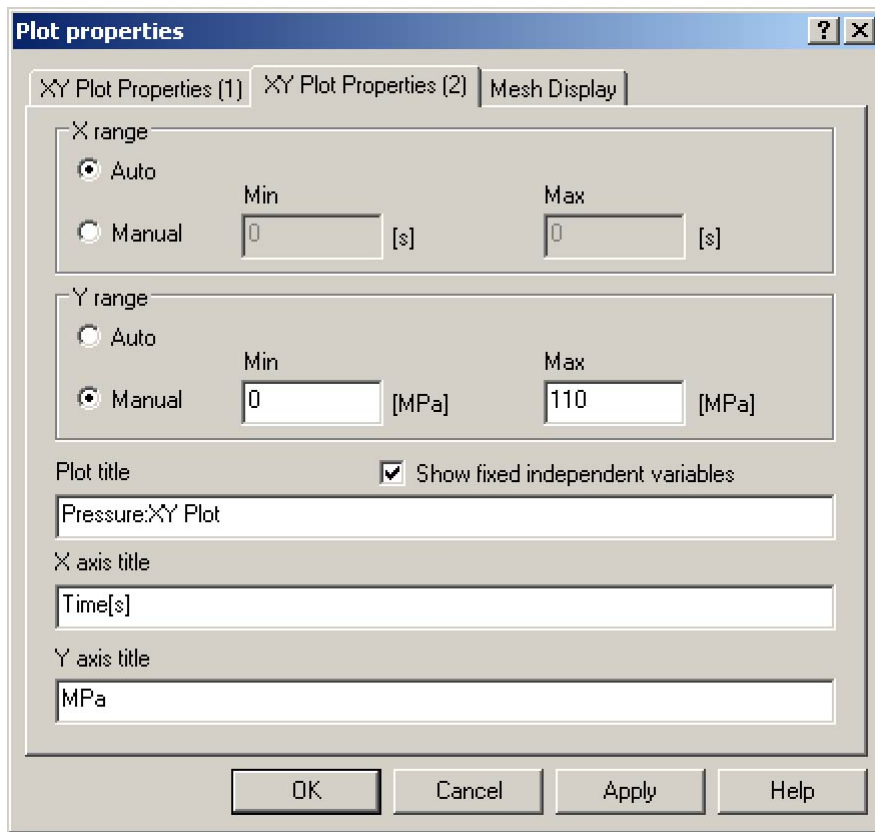

Figure 384: Plot properties, XY (2) tab
In Figure 384 below, XY Plot Properties (2) controls the scaling for the plot. The X and Y-axes can be scaled automatically, or can be scaled manually. In many instances, XY graphs are animated. By default, the scale changes at each time step of the animation. Manually setting the scale will ensure that each time step of the animation will be on the same page. Titles on the graph can also be changed on this page.